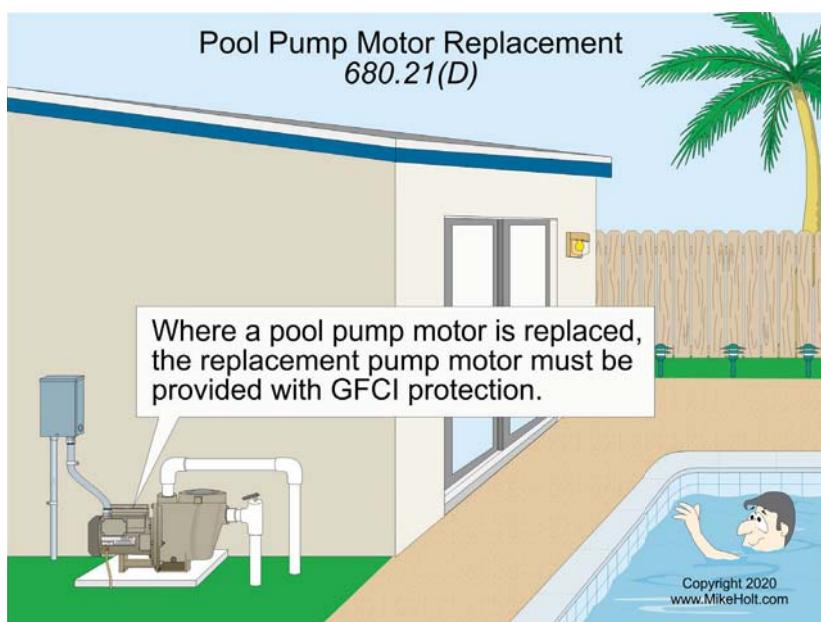

Fig. 1. Any replacement pool pump motor must be provided with GFCI protection.
- Any replacement pool pump motor must be provided with GFCI protection (Fig. 1 on page 56).